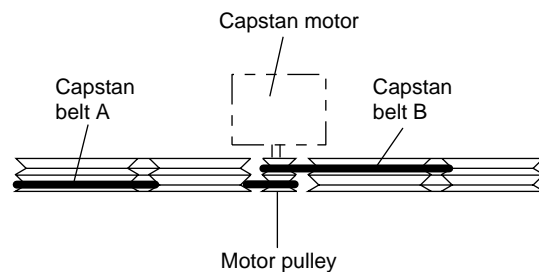

Fig. 6
2. While raising the capstan motor, remove the capstan belts A and B respectively from the motor pulley (See Fig. 6).